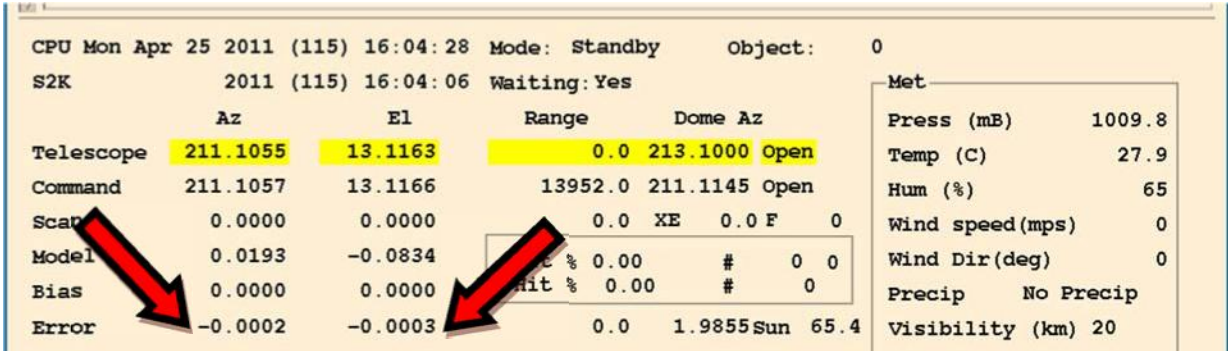

Figure 8-10: Position error between the commanded and actual pointing of the telescope
- c. **Verify that the mount is within 0.005° to the commanded location** – Check on the status of the mount, comparing the azimuth and elevation differences on the RAT display. The mount must be within 0.005 degrees for the laser to fire (Figure 8-10).